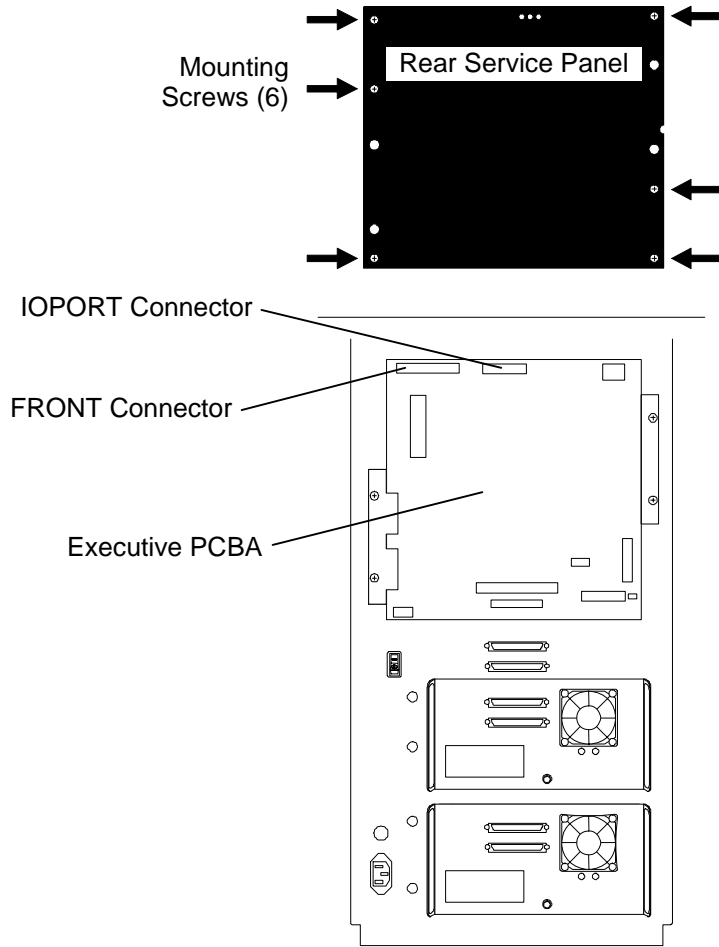

Figure 7-34 TLS Rear View
3. Use a Number 2 Phillips screwdriver to remove all six Rear Service Panel mounting screws (Figure 7-34), then remove the Rear Service Panel.
4. Disconnect the Switch Bracket (Front) Cable and the I/O port cable from the Executive PCBA (Figure 7-34) then lift the cables out through the openings in the top of the TLS (Figure 7-35).
5. Guide the Switch Bracket (FRONT) Cable and the I/O port cable through the openings in the top of the TLS and reconnect them to the Executive PCBA (Figure 7-34). Make sure that the connectors are fully inserted, until the locking tabs of the mating connectors are fully closed.
6. Place the Rear Service Panel onto the TLS, then use a number 2 Phillips screwdriver to reinstall all six Rear Service Panel mounting screws (Figure 7-34).